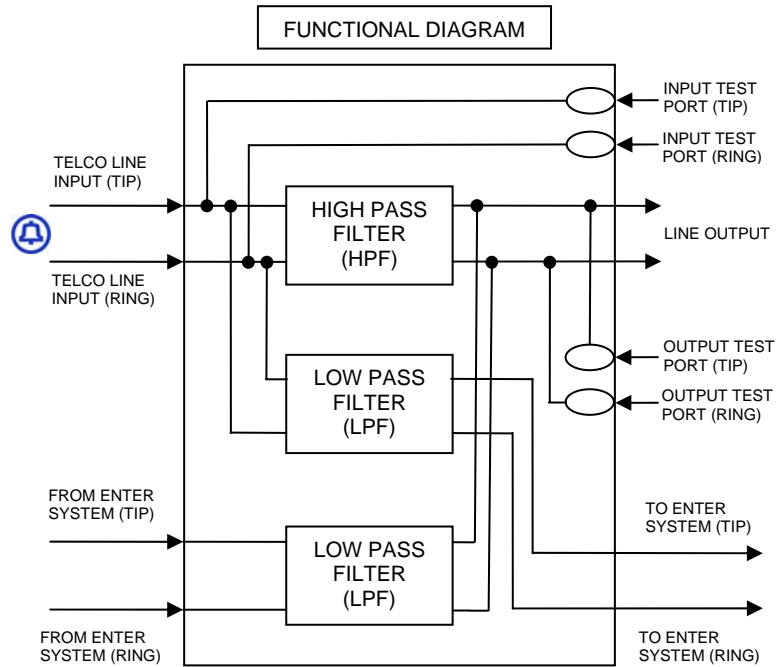

Figure 4
11. Refer to Figure 4 for the ISB module functional schematic.